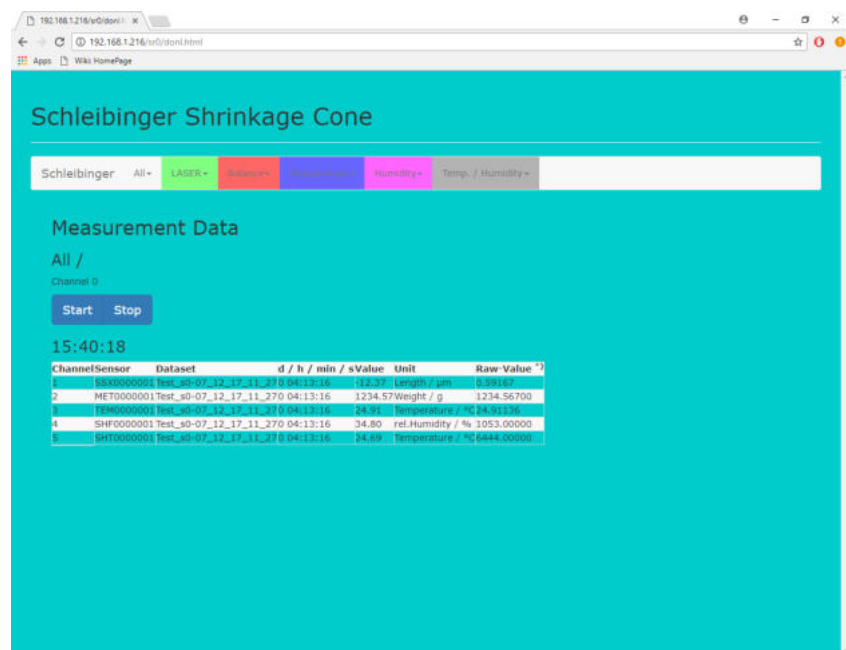

Figure 19: Measurement values in a numerical format
- Check the Laser position by displaying the raw values with: **All - Online Display** and select **Start** (Fig. 19). The raw value from the Laser sensor should be in the range of **32500 to 33000**.
- Enter the filename (optional). The filename will only appear in the column DATASET from **All - Online Display** (Fig. 19)